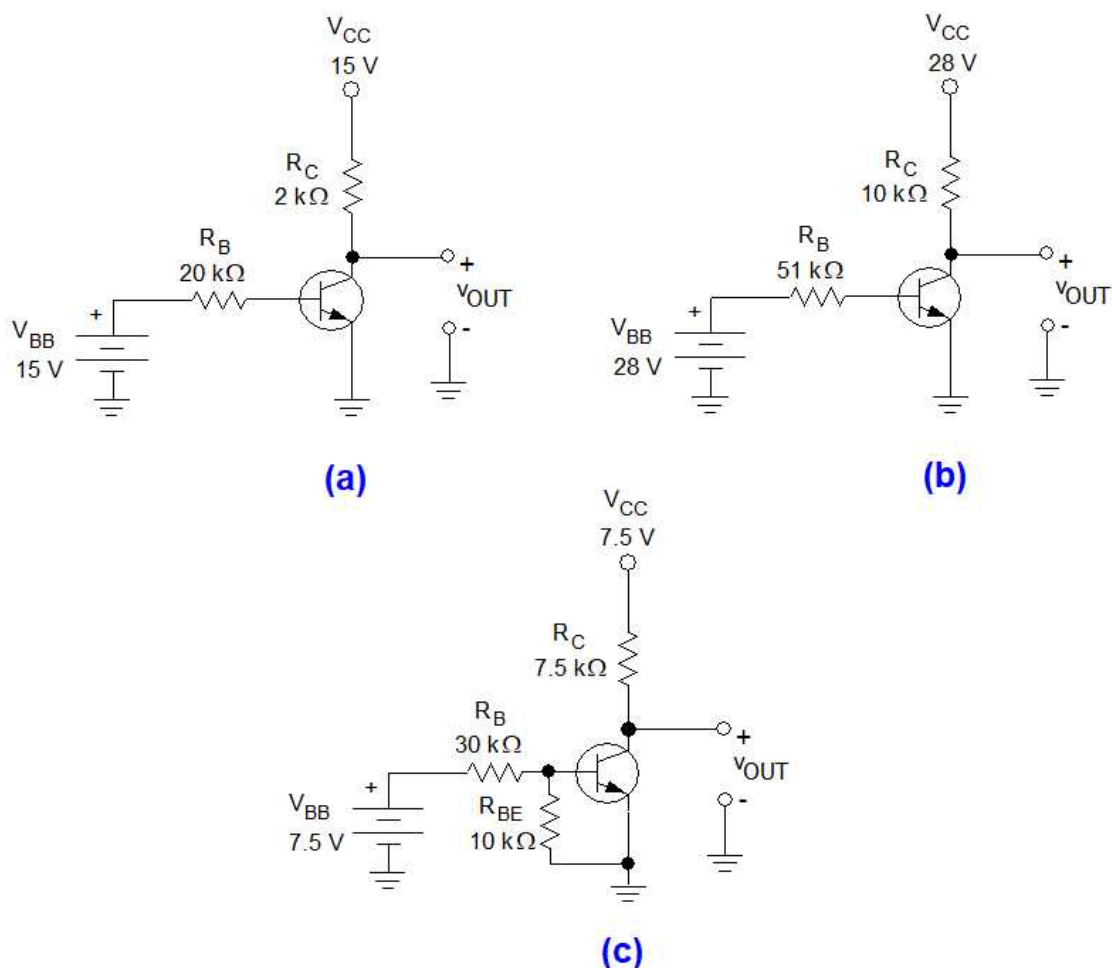

Figure 5-48.
- 5-64 Determine the base current (I_B) and the collector saturation current ($I_{C(SAT)}$) for the BJT switch indicated in Fig. 5-48(a). What is the transistor's forced beta β_F ?
- 5-65 Determine the base current (I_B) and the collector saturation current ($I_{C(SAT)}$) for the BJT switch indicated in Fig. 5-48(b). What is the transistor's forced beta β_F ?
- 5-66 Determine the base current (I_B) and the collector saturation current ($I_{C(SAT)}$) for the BJT switch indicated in Fig. 5-48(c). What is the transistor's forced beta β_F ? The BJT is a silicon unit which means V_{BE} is assumed to be 0.7 V. What is the purpose of resistor R_{BE} ?